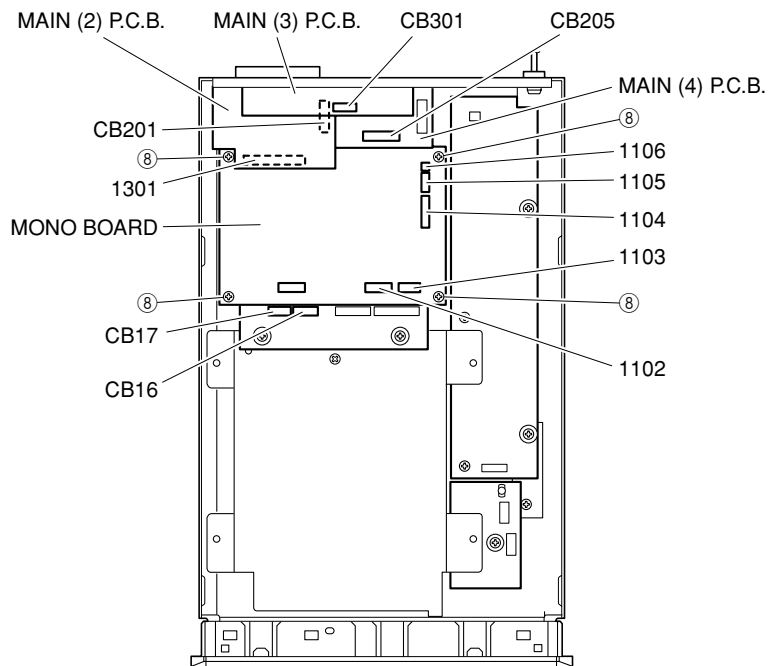

Fig. 3
- b. Remove a connectors (CB16, CB17). (Fig. 3)
- b. Remove a connector (CB301). (Fig. 3)
- c. Remove the MAIN (3) P.C.B..
**5. Removal of MAIN (2) and MAIN (4) P.C.B.**
- b. Remove a connector (CB205). (Fig. 3)
- c. Remove the MAIN (2) and MAIN (4) P.C.B..
- a. Remove 4 screws (⑧). (Fig. 3)
- b. Remove a connectors (1102~1106, 1301). (Fig. 3)